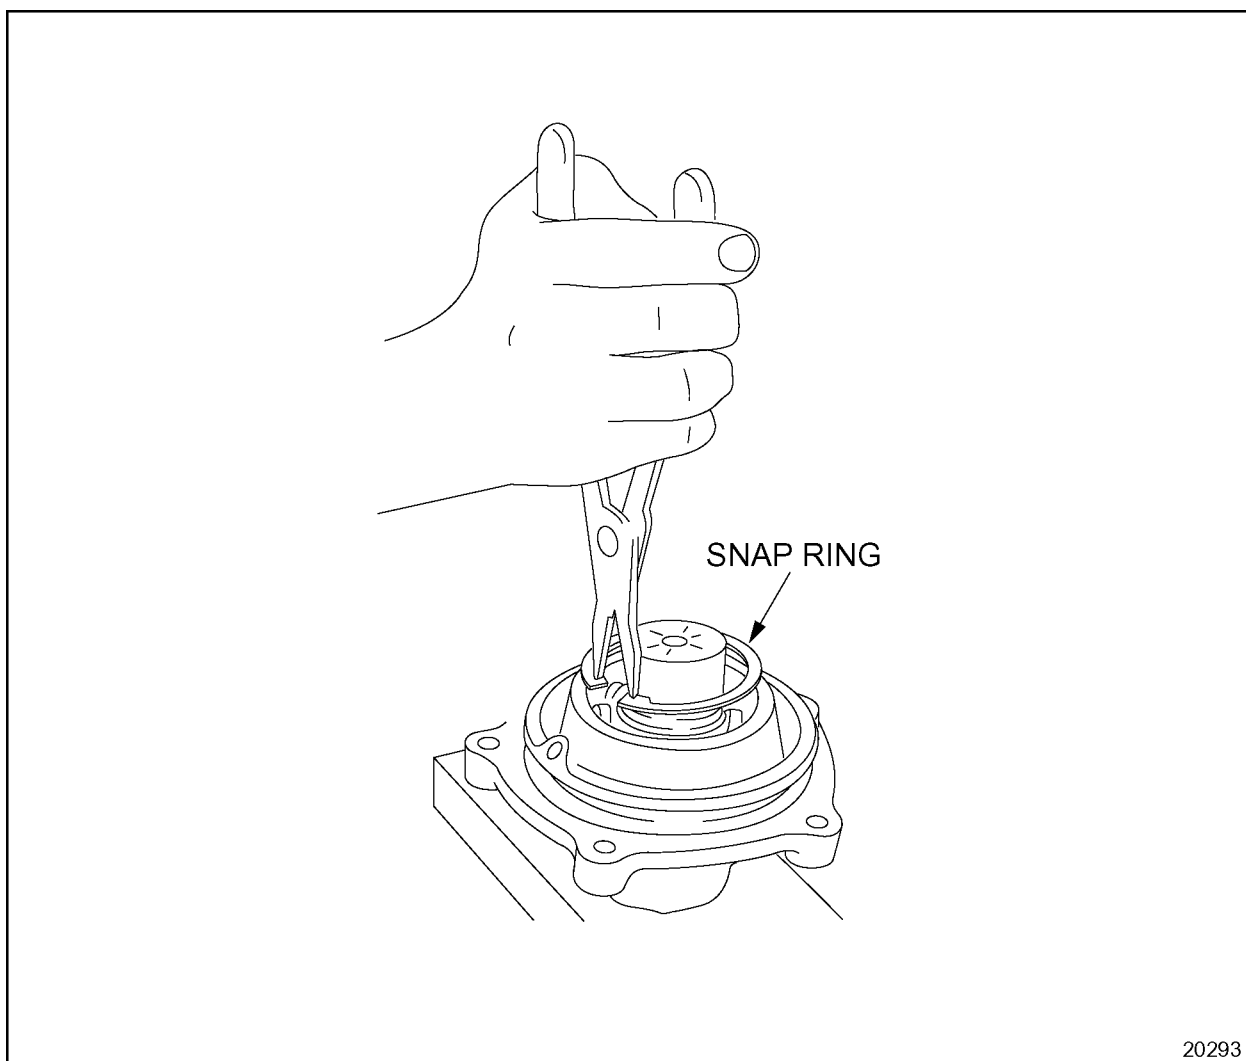

Figure 1-391 Snap Ring Removal
10. Remove the snap ring from the accessory drive housing. See Figure 1-391.